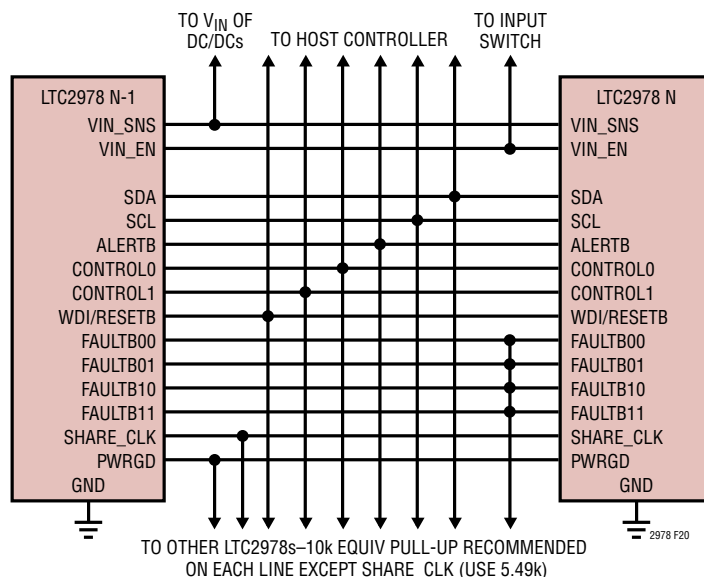
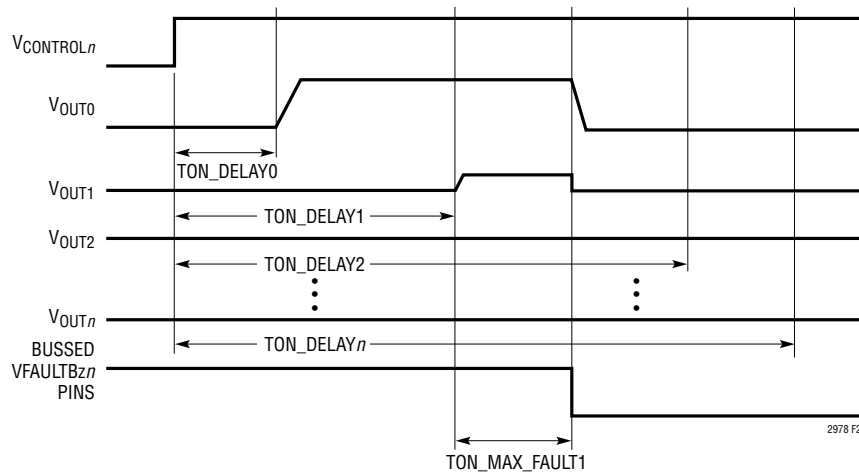

Figure 20. Typical Connections Between Multiple LTC2978s
Figure 21. Aborted On Sequence Due to Channel 1 Short
Figure 20 shows how to interconnect the pins in a typical multi-LTC2978 array.
- The FAULTBzn lines can be connected together to create fault dependencies. Figure 20 shows a configuration where a fault on any FAULTBzn will pull all others low. This is useful for arrays where it is desired to abort a start-up sequence in the event any channel does not come up (see Figure 21).
- PWRGD reflects the status of the outputs that are mapped to it by the MFR\_PWRGD\_EN command. Figure 20 shows all the PWRGD pins connected together, but any combination may be used. Note that the latency of the PWRGD pin response may be in the range of 30ms to 185ms depending on ADC MUX settings. See Electrical Characteristics Table Note 6.